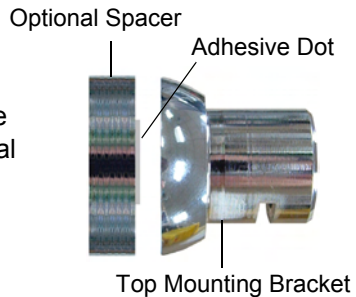

Figure 7:
1. Before attaching the two top Mounting Brackets to the wall, remove the paper backing from the adhesive dot on each of the optional Spacers. Then press the Spacer firmly and centrally on to the top Mounting Bracket (see Figure 7).